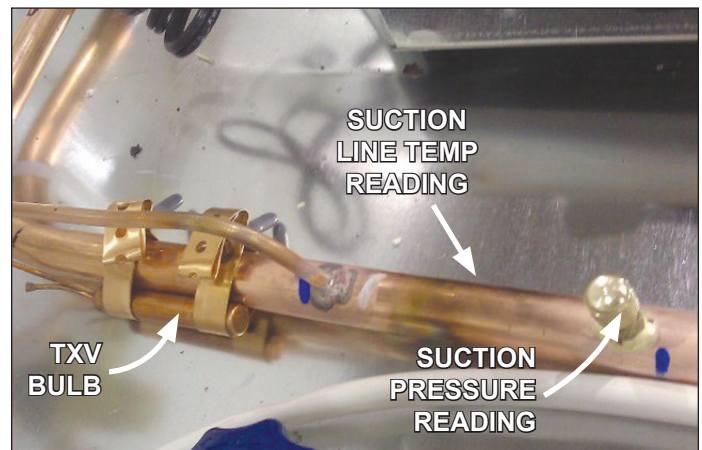

Fig. 15 Obtain pressure and temperature readings
1. Obtain the suction pressure from the access port and obtain the suction line temperature from the area near the TXV bulb at the outlet of the evaporator coil (Fig. 15).